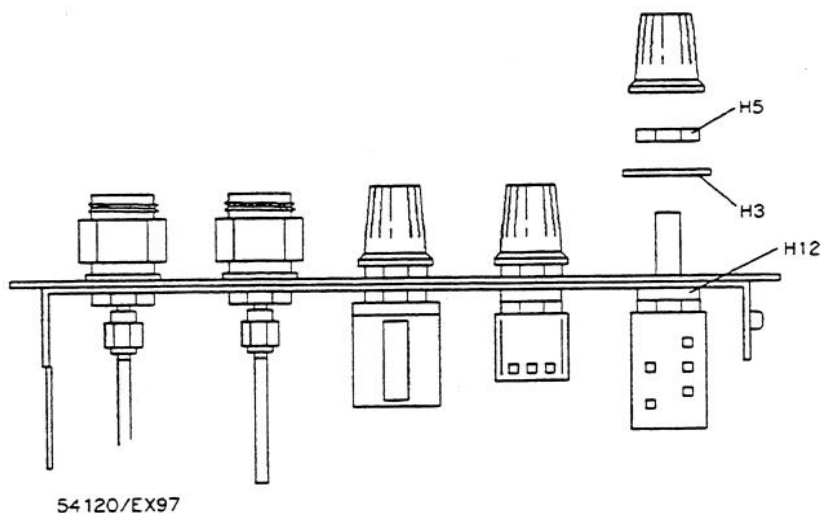

Figure 6-5. Front Panel Controls Removal
4. Use a 1/2 inch wrench to remove nut from front panel control. Refer to figure 6-5.